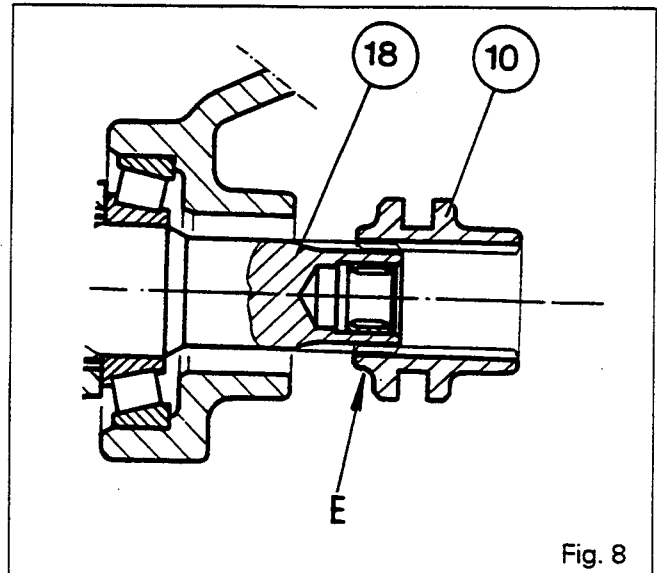
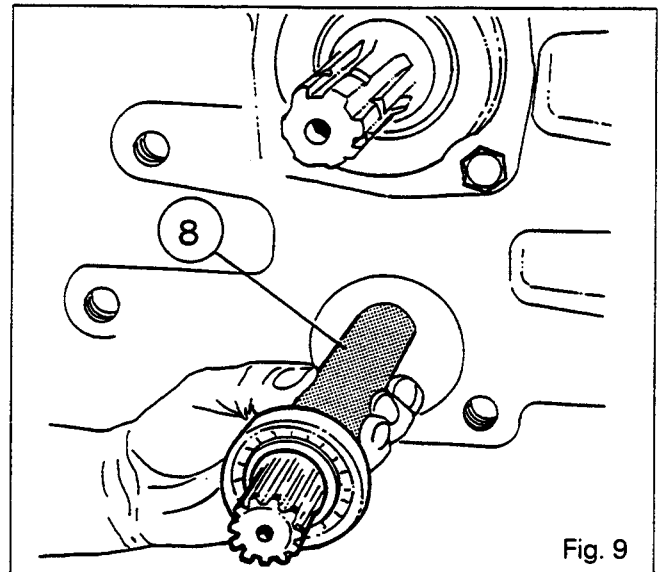
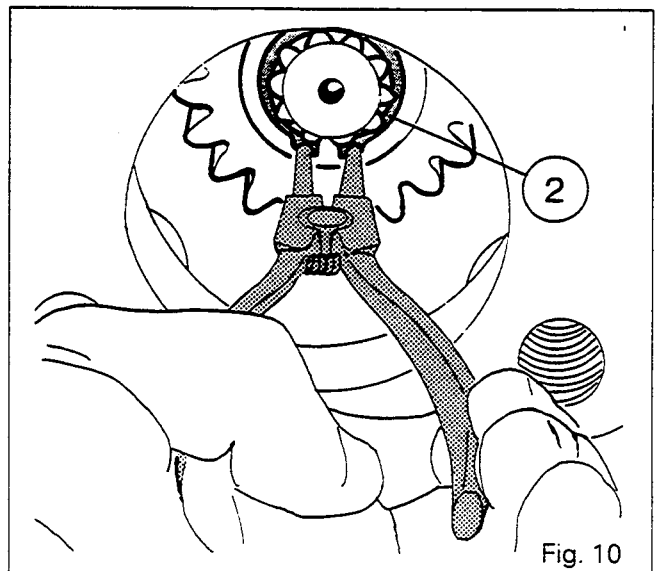

Fig. 8
Fig. 9
Fig. 10
54. Through the aperture in the cover (12), pull on the shaft, turning it back and forth, in order to seat the bearing cones correctly in the cups.
58. Remove the circlip (23) and the spacer (22). Withdraw the shaft (18) assembled with the bearing cone (19) and the circlip (17) while holding the bearing cone (15). Refit the gear (16) the shaft (18) and the cup (20).
59. Apply two spots of grease to the shims [21] selected in operation 57 and place them against the cup (20).
60. Fit the spacer (22) and the circlip (23).
61. Clean the plug (24) and its recess in the housing.
63. Place the coupler (10) on the shaft (18).
Note: Position the small shoulder E towards the shaft (18) (Fig. 8).
64. Fit the circlips (6) and (9) on the shaft (8).
65. Using suitable equipment, press the ball bearing (5) on to the shaft (8), until it contacts the circlip (6).
66. Check that the circlip (7) is present.
67. Mount the assembled shaft (8) in the housing (Fig. 9).
68. Mount the circlip (4).
69. Fit the pinion (3).
70. Mount the circlip (2) (Fig. 10).
71. Check the movement of the coupler (10) through the aperture in the cover (12).
72. Clean the plug (1) and the bore in the housing.